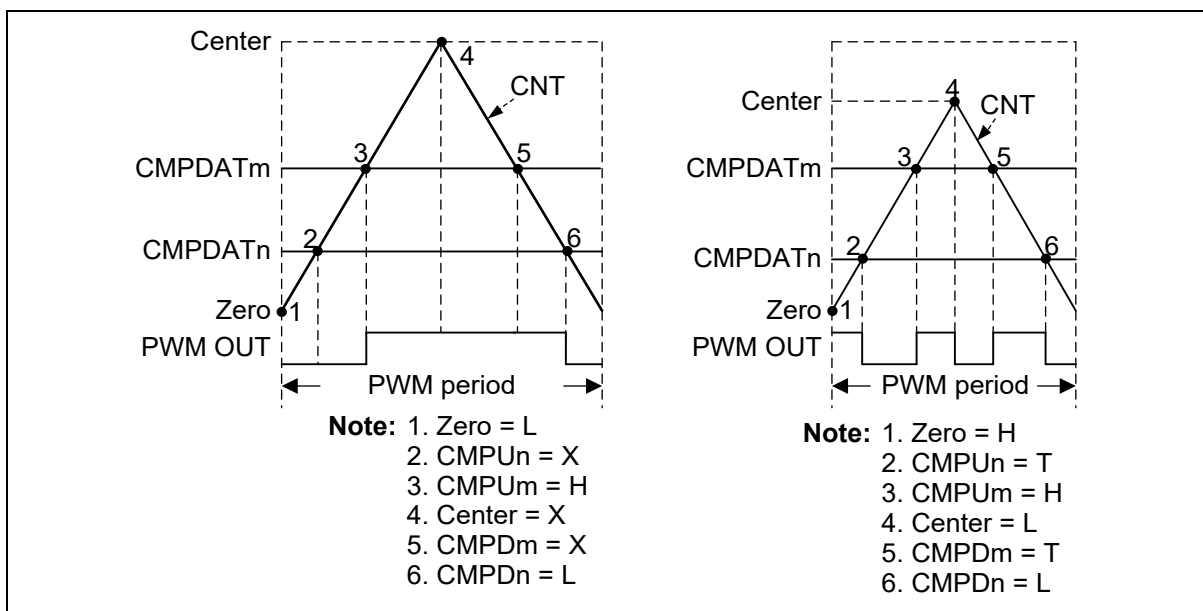

Figure 6.12-16 PWM Pulse Generation
Each event point can decide PWM waveform to do nothing (X), set Low (L), set High (H) or toggle (T) by setting the PWM_WGCTL0 and PWM_WGCTL1 registers. Using these points can easily generate asymmetric PWM pulse or variant waveform as shown in Figure 6.12-16. In the figure, PWM is in complementary mode, there are two comparators n and m to generate PWM pulse. n denotes even channel number 0, 2, or 4, and m denotes odd channel number 1, 3, or 5. n channel and m channel are complementary paired. Complementary mode uses two channels (CH0 and CH1, CH2 and CH3, or CH4 and CH5) as a pair of PWM outputs to generate complement paired waveforms. CMPU denotes $CNT(PWM_CNTn[15:0])$ is equal to $CMP(PWM_CMPDATn[15:0])$ when counting up. CMPD denotes CNT bits is equal to CMP bits when counting down.